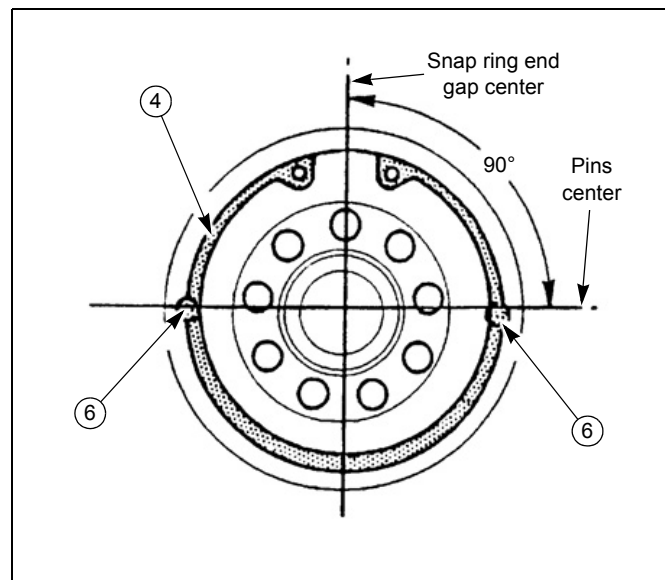

Figure 2-73
1. Install thrust washer ⑩, driven cam ⑨, compression spring ⑧, and center cam ⑦ in the one-way clutch assembly housing ⑪.
2. Install the keeper pins ⑥ in their recess on both sides of the housing and insert the drive cam ⑤ into position.
3. Install the snap ring ④ so that the snap ring end gap is 90° from the keeper pins ⑥ as shown in Figure 2-73.
4. Install the sleeve ③ and thrust washers ① and ②.